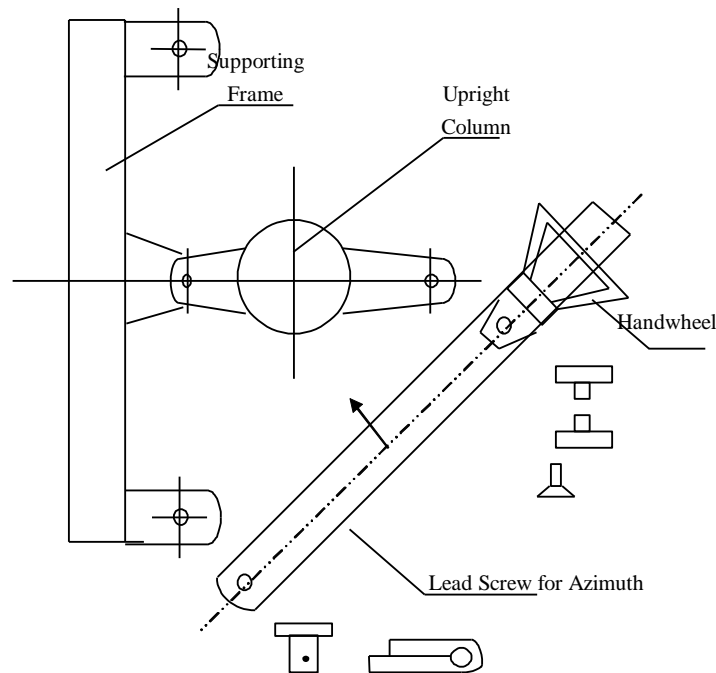

Figure 6. Installation of Device of Azimuth
Put one end of azimuth device into the position between the double lug located above the upright column, mount two short flange axes, then fasten the screws. Rotate the supporting frame, insert the lug of lead screw for azimuth into the position between the double lugs of supporting frame, mount the pin 2#, and then mount the cotter pin. (shown in Figure 6.)
3.2 Elevation Adjustment of Antenna (shown in Figure 6.)